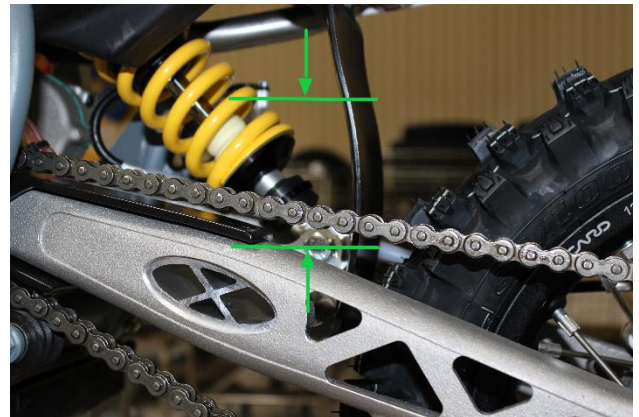

Figure 2
2. For proper adjustment, the chain should have 35 mm free movement just behind the chain block with no load on the bike (Figure 2)